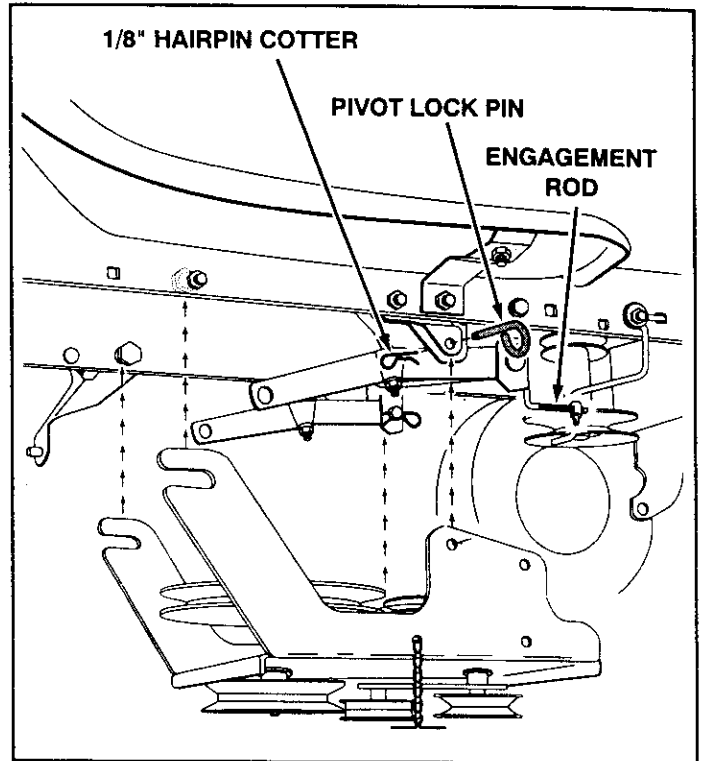

FIGURE 12 RIGHT SIDE VIEW
- Be sure that the loose end of the engagement rod is lifted up toward the front of the tractor (as shown in figure 12) when performing the next operation. You can temporarily support the rod using a rubber band tied to the engine pulley keeper.
- Attach the snow thrower's clutch/idler assembly to the tractor frame by sliding the notched arms at the rear of the assembly onto the two shoulder bolts assembled to the inside of the tractor frame. Lift the front of the assembly, fitting the sides into the R.H. and L.H. hanger brackets. Attach the assembly to the brackets using two pivot lock pins and 1/8" hairpin cotters. See figure 12.